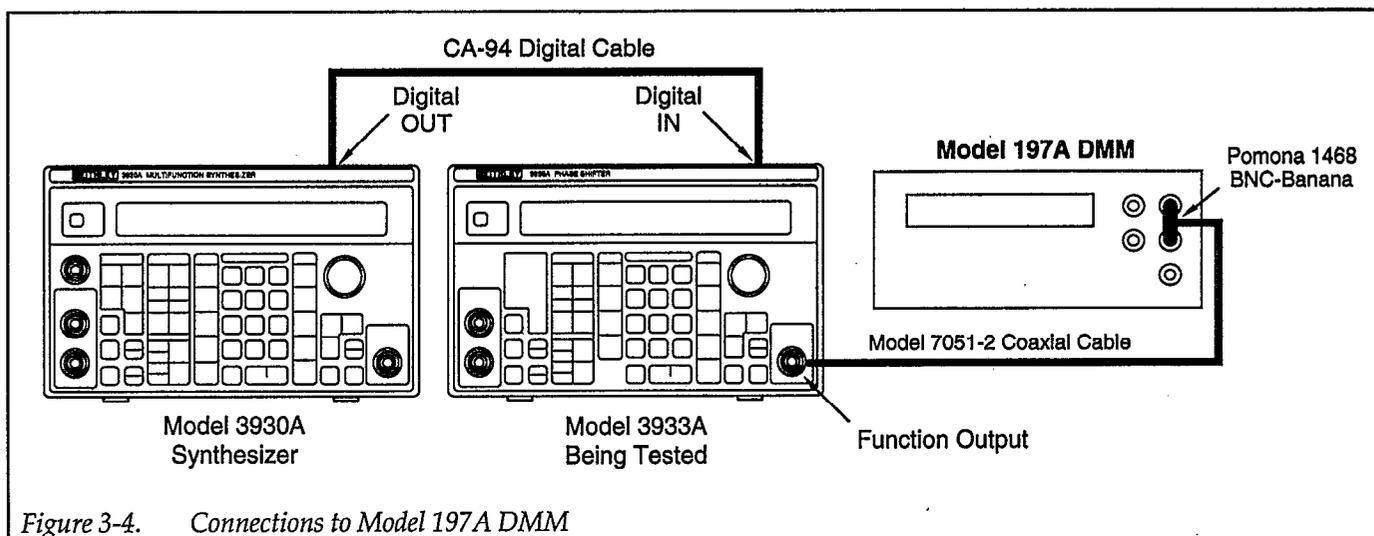

Figure 3-4. Connections to Model 197A DMM
1. Connect the Model 197A DMM to the Model 3933A FCTN OUT jack, as shown in Figure 3-4. Also make sure the Model 3930A is connected properly as indicated.
1. Connect the Model 197A DMM to the FCTN OUT jack of the Model 3933A (Figure 3-4). Also make sure the Model 3930A is connected properly as indicated.
1. Disconnect the second Model 3930A from the AMIN connector, and make sure the DMM is still connected to the FCTN OUT jack of the Model 3933A being calibrated (Figure 3-4).
1. Connect the Model 197A DMM to FCTN OUT (Figure 3-4).